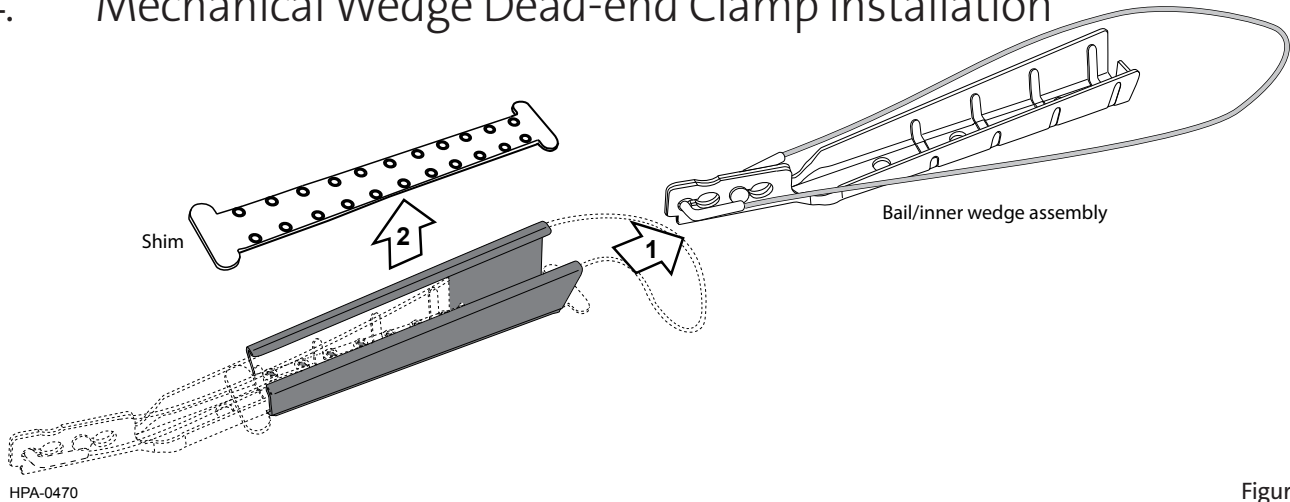

Figure 2
Step 1: Disassemble the factory pre-assembled dead-end clamp by sliding out the inner wedge/bail assembly and removing the shim (Figure 2).